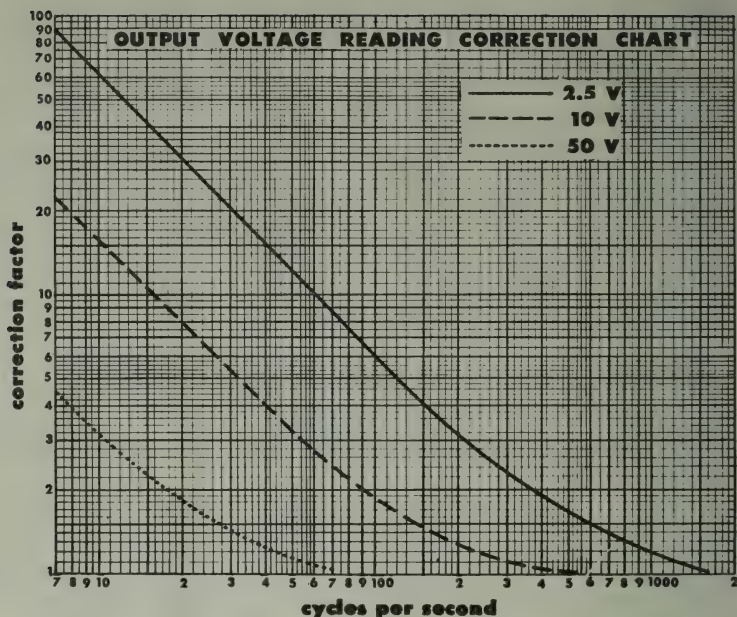

FIG. 1
Fig. 1 shows the internal connections for d-c voltage measurement. Near the center of the diagram is the OUTPUT-AC-DC function switch, S_2 , which is set at DC (1) when the instrument is to be used as a d-c voltmeter, S_1 -A, S_1 -C, and S_1 -D are each sections of the 4 pole, 12 position RANGE switch S_1 . Only the five voltage positions are shown, positions and ranges corresponding as follows: 1 -- 1KV-5KV, 2 -- 250V, 3 -- 50V, 4 -- 10V, 5 -- 2.5V. As is shown in the diagram, all five voltage positions of sections S_1 -A and S_1 -C respectively are shorted together, whereas in section S_1 -D, each position introduces a different resistance in series with the meter. External test connections are made by inserting the tips of the test leads in pin jacks J_3 (— COMMON) and J_4 (+) on all voltage ranges except the 5000V range, when jacks J_3 and J_5 (D. C. 5000V) are used.